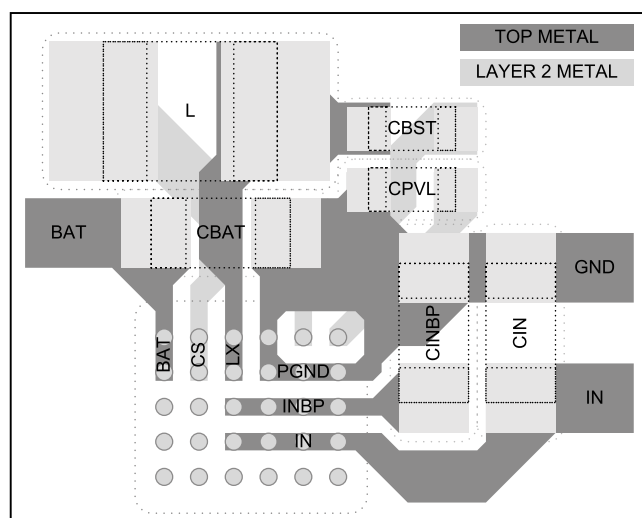
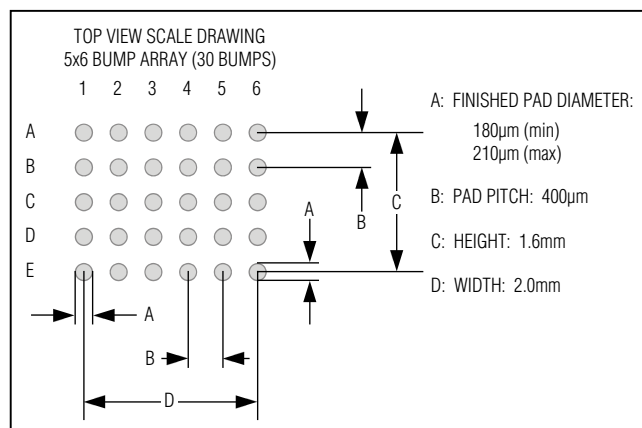
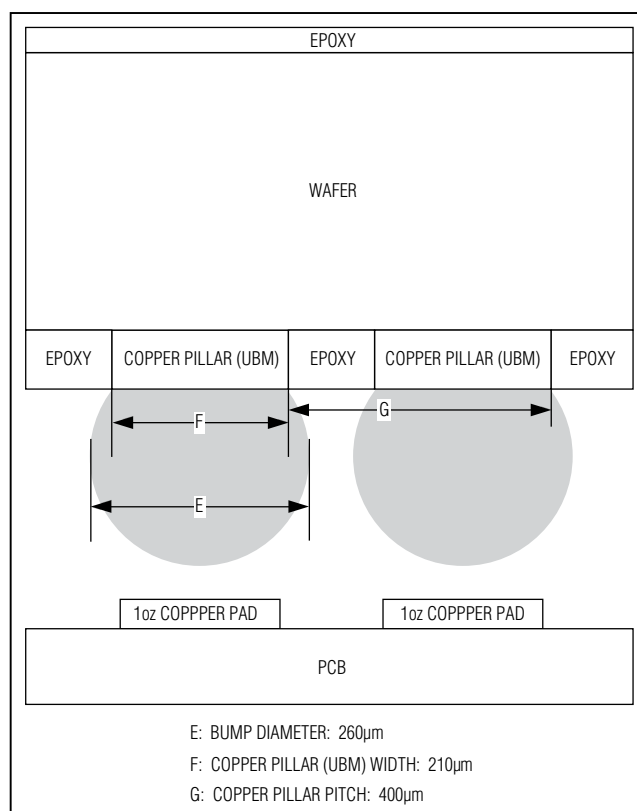
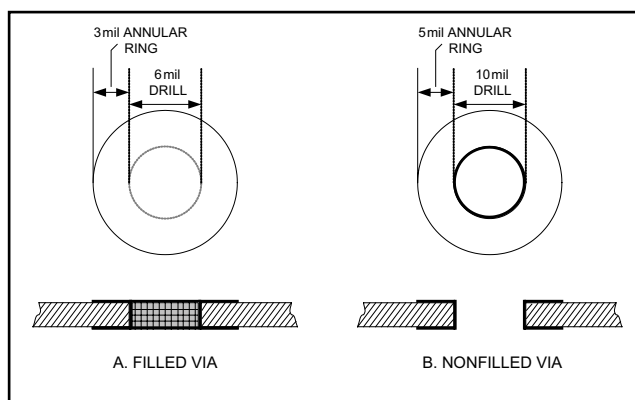

Figure 4. Power PCB Layout Example
Figure 5. Recommended Land Pattern
Figure 6. Bump Cross Section and Copper Pillar Detail
Figure 8. Via Details
The MAX8900_ wafer-level package (WLP) and bump configuration allows for a small-size, low-cost PCB design. Figure 4 shows that the 30 bumps on the MAX8900_ WLP are combined into 18 functional nodes. The bump configuration places all like nodes adjacent to each other to minimize the area required for routing. The bump configuration also allows for a layout that does not use any vias within the WLP bump matrix (i.e., no micro vias). To utilize this no-via layout, $\overline{\text{CEN}}$ is left unconnected and the STAT3 pin is not used (2-pin status version). Note that although layouts without micro vias are possible, this EV kit uses filled micro vias that are on the WLP pads of the MAX8900A (A2, A5, A6, B2, C2, D2, and E6). These filled micro vias on pads were used to showcase the small solution size.
Figure 5 shows the recommended land pattern for the MAX8900_. Figure 6 shows the bump cross section of the MAX8900_ under-bump metal (UBM). The diameter of each pad in the land pattern is close to the diameter of the UBM. This land pattern to UBM relationship is important to get proper reflow of each solder bump. Note that although layouts without micro vias are possible, this EV kit uses filled micro vias that are on the WLP pads of the MAX8900A (A2, A5, A6, B2, C2, D2, and E6). These filled micro vias on pads were used to showcase the small solution size.
Careful printed circuit layout is important for minimizing ground bounce and noise. Figure 4 is an example layout of the critical power components for the MAX8900_. The arrangement of the components that are not shown in Figure 4 is less critical. Figures 8–10 show the entire layout of the MAX8900A EV kit and Table 6 shows the EV kit construction attributes. To ensure a successful layout for the MAX8900A, use the following list of guidelines and refer to Application Note 1891: *Wafer-Level Packaging (WLP) and Its Applications*, which is available at www.maximintegrated.com.
- 5) In Figure 4, the CS node is connected to the second layer of metal with vias. Use low-impedance vias capable of handling 1.5A of current. Also, keep the routing inductor current path on layer 2 just underneath the inductor current path on layer 1 to minimize impedance.
- 6) Both CBST and CpVL deliver current pulses for the MAX8900_'s MOSFET drivers. These components should be placed as shown in Figure 4 to minimize parasitic impedance.
In Figure 4, many of the top-layer bump pads are connected together in top metal. When connecting bumps together with top-layer metal, the solder mask must define the pads from 180 μ m to 210 μ m, as shown in Figure 5. When using solder-mask defined pads, double-
VIA UNDER WLP:	6 mil drill and 3 mil annular ring on top and bottom layers, filled via (Figure 8)
VIA ON REMAINING AREA OF PCB:	10 mil drill and 5 mil annular ring on top and bottom layers (Figure 8)